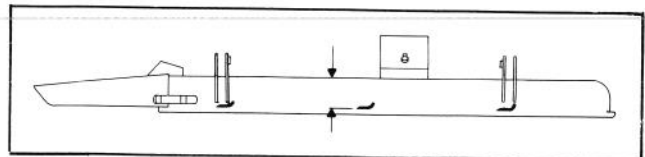

Figure 17
2. Rotate blade until the ends face forward and backward (Fig. 17). Measure from inside of cutting unit to cutting edge at front of blade (Fig. 17), and remember this dimension.